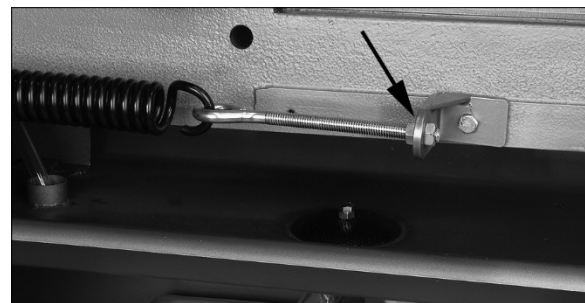

Figure 8-13: Feed Pressure Adjustment
- 4) If adjustment is needed, loosen one nut and tighten the other (Figure 8-13) on the eye bolt, until scale indicates 5 to 6 kg (11-13 lb).